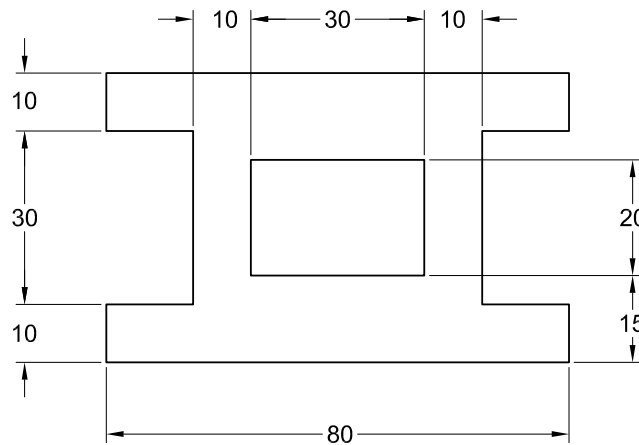
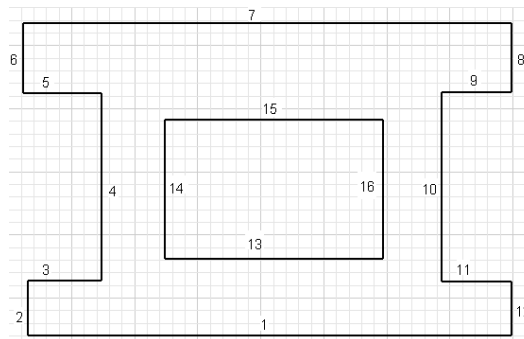

Figure 3-48 Dimensioned sketch for Tutorial 1
Figure 3-49 Initial sketch drawn using the sketching tools
In this tutorial, you will draw the sketch shown in Figure 3-48. This sketch is the same as the one drawn in Tutorial 2 of Chapter 2. After drawing the sketch, you will add the required constraints and then dimension it. **(Expected time: 30 min)**
- Draw the initial sketch by using the **Line** and **Two point rectangle** tools, refer to Figure 3-49.
1. Using the **Line** and **Two point rectangle** tools, draw the required sketch similar to the one shown in Figure 3-48. You do not need to draw the sketch to the exact length. Use the temporary tracking option for drawing the sketch. For your reference, all lines in the sketch are numbered, see Figure 3-49.
It is evident from Figure 3-49 that some of the lines need to be of the same length. For example, lines 1 and 7, lines 2 and 6, lines 8 and 12, and so on. To make the lines of the same length, you can use two options. In the first option, you can assign dimensions to all these lines. However, this will increase the number of dimensions in the sketch. In the second option, you can apply constraints that will force the lines to maintain an equal length. You can apply the Equal constraint to all the lines having the same length. This constraint will relate the length of one of the lines with respect to the other. Now, if you dimension any one of the related lines, all other lines related to it will be forced to acquire the same dimension value. The Equal constraint is applied in pairs.
1. Choose the **Dimension** tool from the **Constrain** panel of the **Sketch** tab. Alternatively, right-click anywhere in the graphics window and then choose **General Dimension** from the Marking menu displayed. Next, select line 1, refer to Figure 3-49.